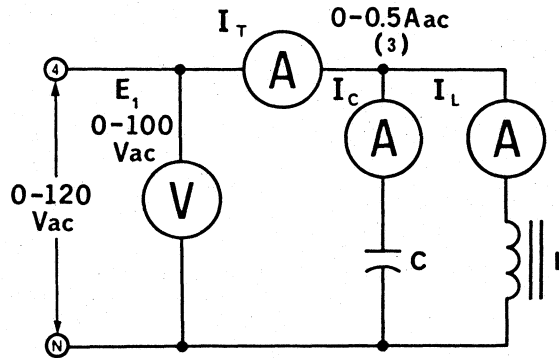
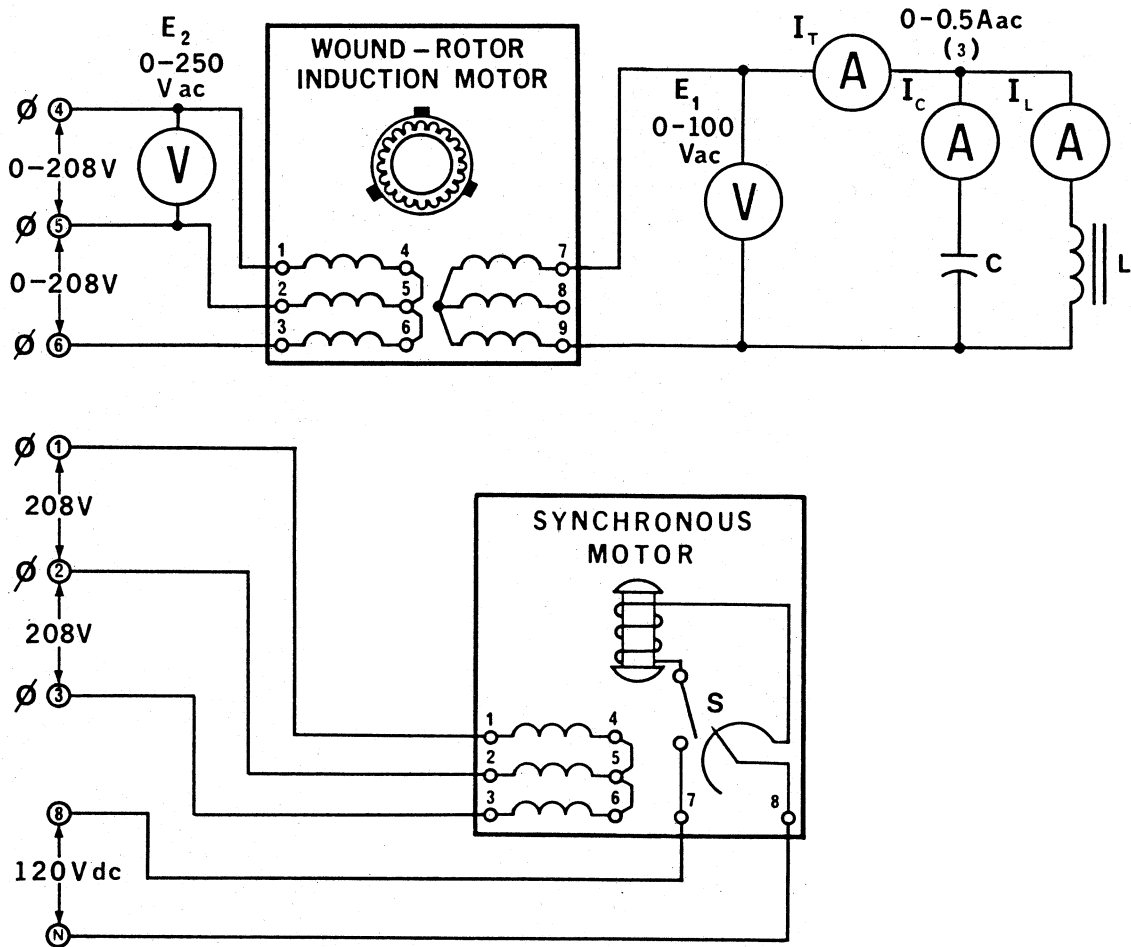

Figure 16-2.
Figure 16-4.
- 4. a. Connect the circuit shown in Figure 16-2.
- 10. Connect the load circuit of Figure 16-2 to the 75 V ac output of the rotary converter, terminals 7 and 9 as shown in Figure 16-4.